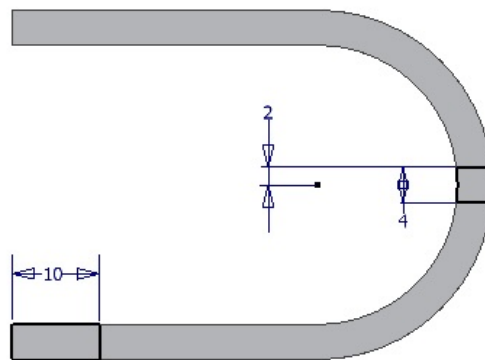

Figure 7-58 Sketch for slots
2. Draw the sketch for both slots, as shown in Figure 7-58.